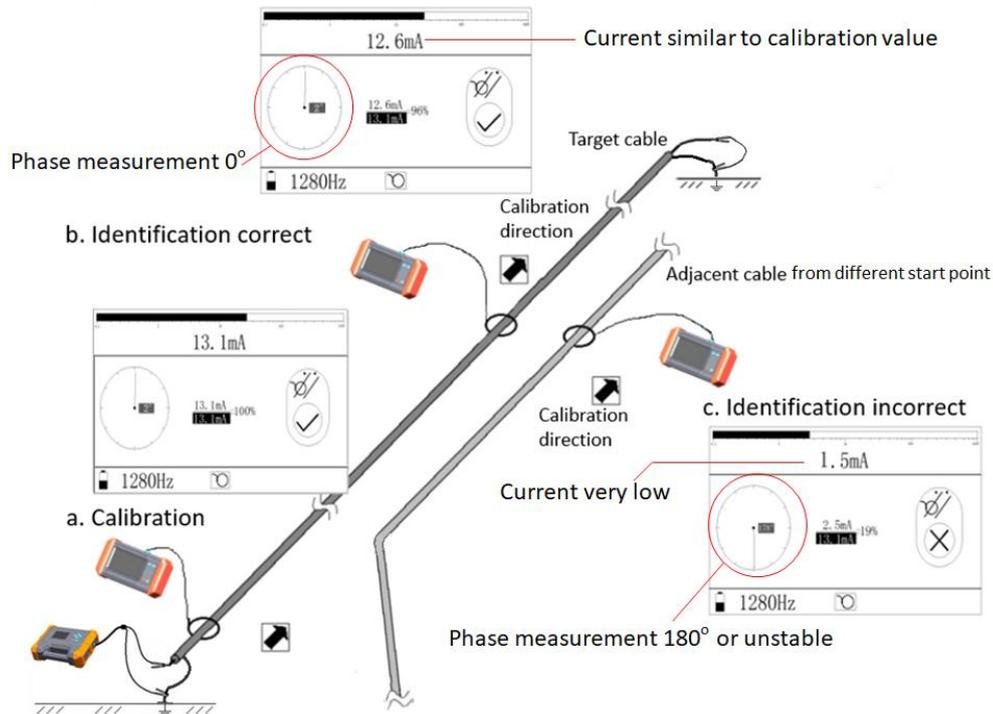

Figure 5.7 Results for adjacent cables from different start points with core conductor earth connection
- The third example (Figure 5.7): The paths of other parallel cables and the target cable are different (generally the ends are at different positions). The measurement result is: the target cable current is  $I$ , but the value is much smaller than the transmitter injection value, and the phase is near  $0^\circ$ , prompting identification Correct. The adjacent line current is close to 0, and the phase is close to  $180^\circ$  or unstable, indicating a recognition error.